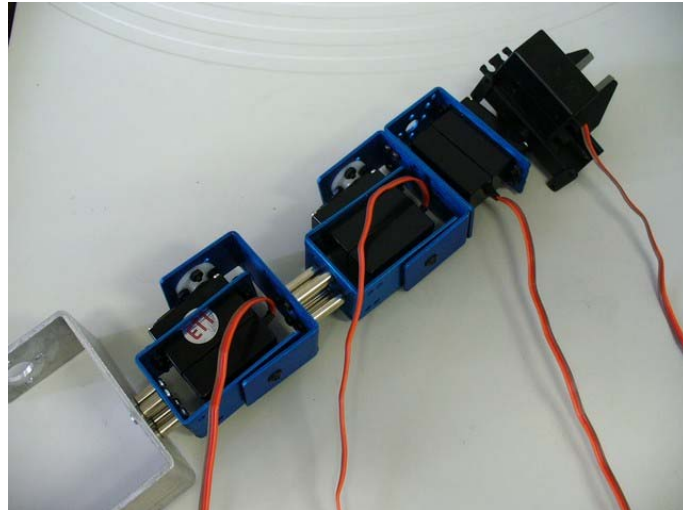

Figure 11 Position to install the servo motor #3
9. Repeat steps 6-7 for connecting Servo Motor #3 with the arm. Figure 11 shows the robot arm after the servo motor #3 is installed. In this position, the servo motor #3 must be in the center position.